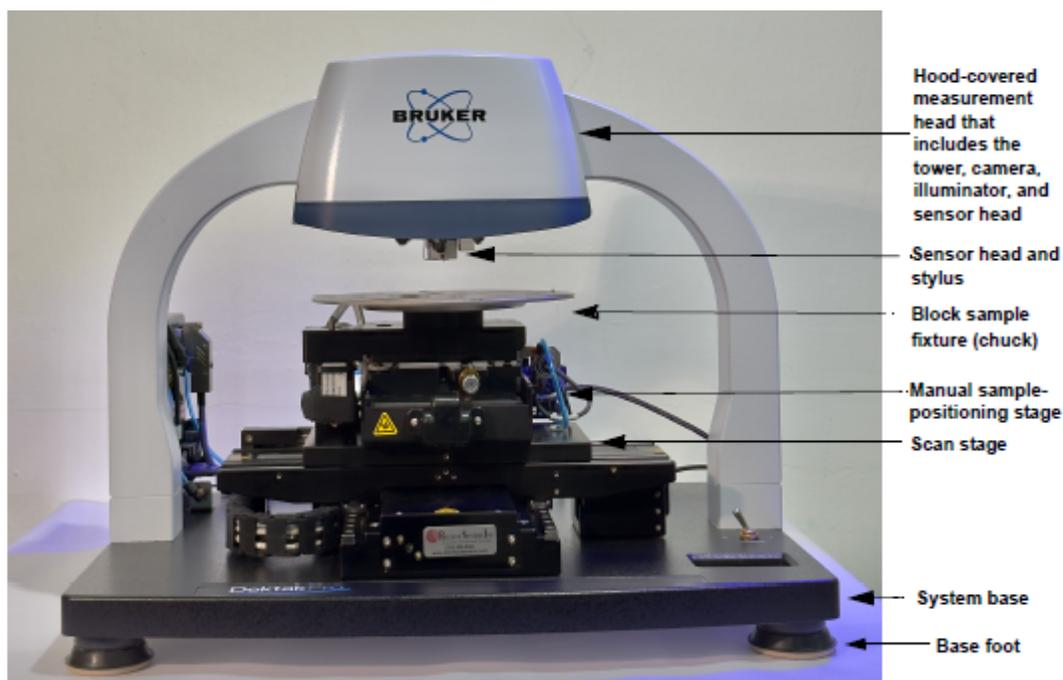
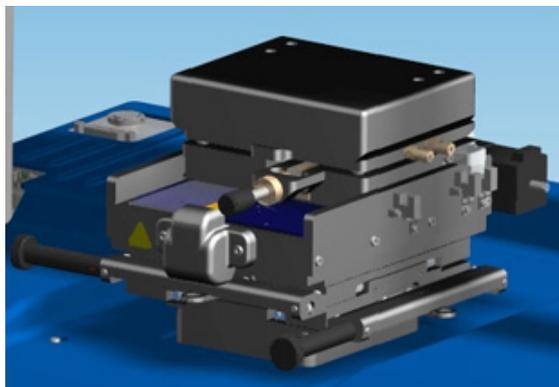
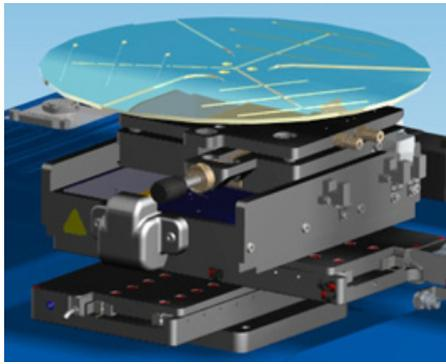
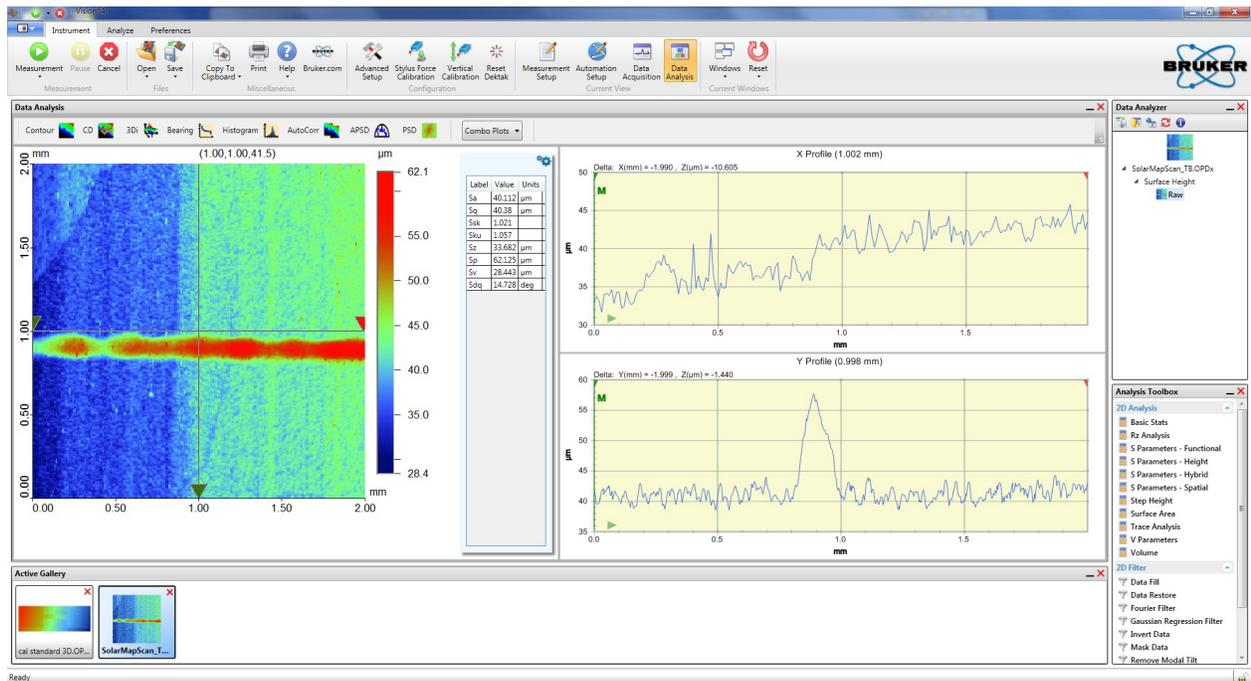

Figure 2-1: DektakPro Stylus Profiler with the Standard Manual X-Y Sample-Positioning Stage
Figure 2-2: Standard Manual Sample-Positioning Stage with Square Base Platform Fixture
Figure 2-3: X-Y Auto Stage with Wafer Vacuum Sample Fixture (Chuck)
Figure 2-15: 2D Contour Plot Generated with the 3D Mapping Option
The DektakPro[®] stylus surface profiler is an advanced thin and thick film step height measurement tool. In addition to profiling surface topography and waviness, the DektakPro system measures roughness in the nanometer range. Available with a standard manual sample-positioning stage (see Figure 2-1) or an optional automatic X-Y or theta stage (see Figure 2-3), it provides a step-height repeatability of 5Å (<0.6 nm).
- **The standard 2-D DektakPro system**, which includes a two-axis, manual sample-positioning stage with 101.6 x 101.6 mm (4 x 4 inches) of X-Y translation, manual leveling, two-point programmable or cursor software leveling, and manual theta rotation (see Figure 2-2). This standard stage accommodates samples up to 50 mm (1.9 inches) thick and performs long scans of 55 mm (2.16 inches). It provides ± 50.8 mm (2 inches) of X-Y translation as well as manual theta positioning (see Figure 2-3). The standard system is available with 50 mm (1.97 inch), 100 mm (3.94 inch), and 150 mm (5.90 inch) wafer alignment pins, along with one of the following sample fixtures (chucks):
- **The 3D Mapping and Automation Options**, which include an X-Y auto sample-positioning stage (see Figure 2-3). In addition to 3D mapping (see Figure 2-15), these options provide automation and programmability of up to 200 sites on samples of up to 150 mm (5.90 inches) in diameter. The X-Y auto sample-positioning stage includes one of the following sample fixtures (chucks):
As shown in Figure 2-1, the DektakPro stylus surface profiler system contains all of the mechanical, electrical, and optical components for sample positioning, sample viewing, and scanning/measurement. As described in Stage Configurations on page 2-2, the system can be configured with a manual or X-Y auto stage. Its sturdy single-arch bridge design reduces sensitivity to adverse environmental conditions.
The hood-covered measurement head shown in Figure 2-1 houses a USB video camera and an LED illuminator to assist the operator in feature location and stylus centering. The live video output of the camera provides feedback to the operator during a scan measurement.
A diamond-tipped stylus (see Figure 2-3) attached to the sensor head permits accurate two-dimensional surface profiler measurements in a wide range of applications. In standard configuration, user-programmable stylus force from 1 mg to 15 mg allows profiling on soft or hard surfaces.
- The 3D Mapping Option that enables true 3D-mapping (see Figure 2-15), calculates the bearing ratio, and performs many other analyses.